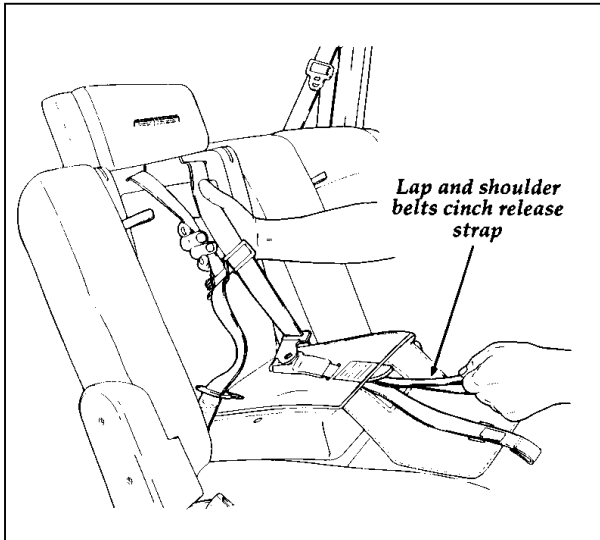

Figure 4
6. Pull the lap and shoulder belts cinch release strap while pulling the shoulder belts fully out. Refer to Figures 4 and 5.
11. If the shoulder belts are pulled too tight, pull on the lap and shoulder belts cinch release strap to loosen the shoulder belts on the child's shoulders. Refer to Figure 4. Then retighten the lap and shoulder adjustment belt per Step 10 above.